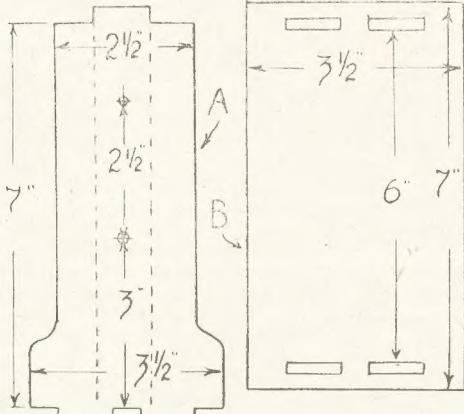

Fig. 1—Sides and floor pieces of model
Make the stand first. This consists of two sides, a base, and a top. Patterns for the two former parts are given in Fig. 1. (A) is the sides. Cut two of these to shape and dimensions, making the tenons 1 in. long, and $\frac{1}{2}$ in. apart for the bottom pair.